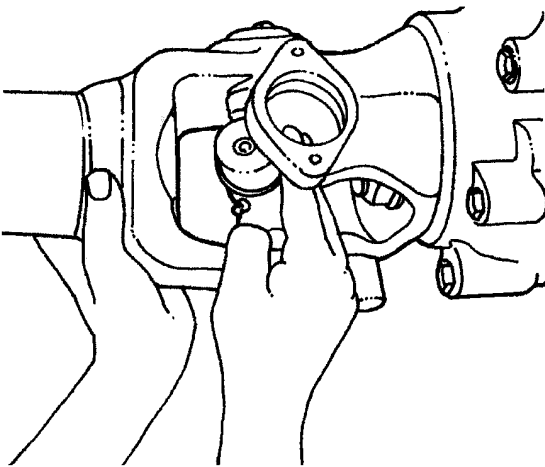

Figure 12 Free Cross From End Yoke
7. Free the cross from the end yoke by tilting it while collapsing the propeller shaft (Figure 12).